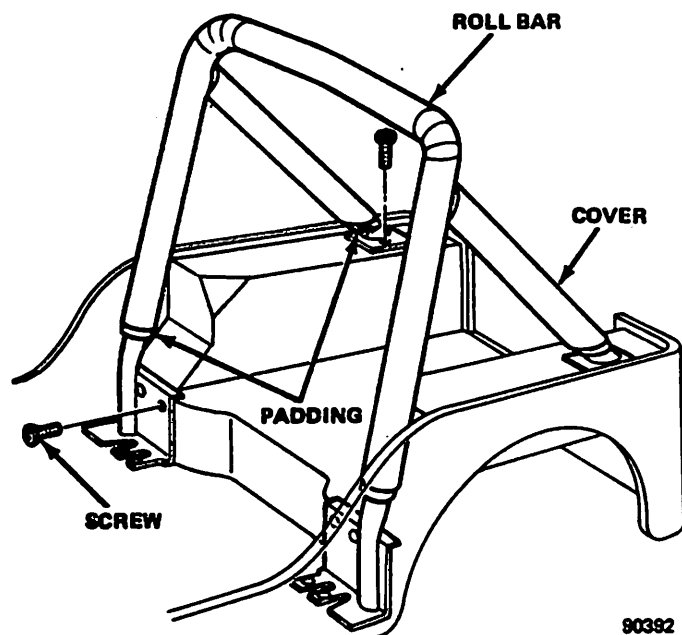

Fig. 3F-25 Roll Bar—CJ Models
- (1) Remove left front seat assembly.
- (2) Remove hardtop or fold soft top back, if equipped.
- (3) Tilt right front seat to forward position.
- (4) Remove necessary carpeting, if equipped.
- (5) Remove screws attaching roll bar to body (fig. 3F-25) using Torx Bit Tool J-25359-C.